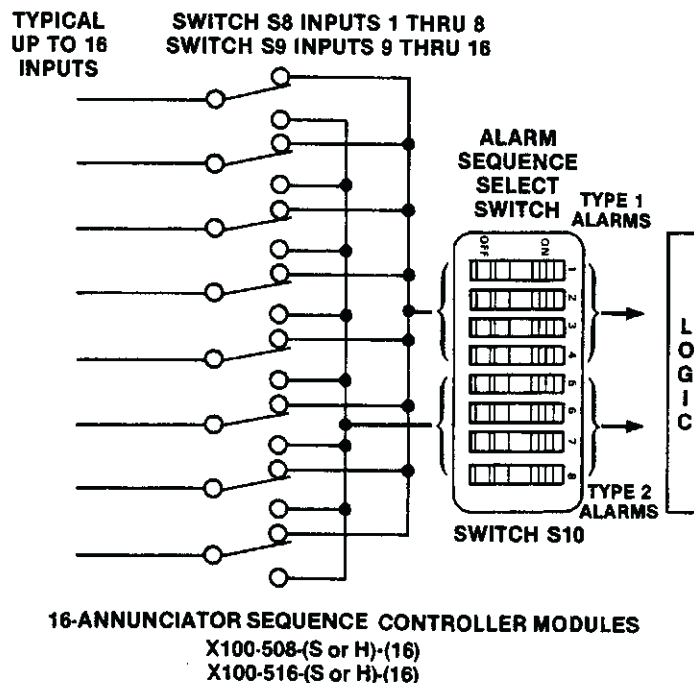

Figure 2-1. Input Grouping and Sequence Selection Switches, Simplified Diagram
Two annunciator sequences may be selected for simultaneous operation. One (1) eight-position DIP switch pack (S10) on the controller module, Figure 2-1, is used to select the desired sequence. Input grouping switches (S8 and S9) on the controller allow the user to assign the inputs to be monitored to the 8-position DIP switch. The position of the appropriate Sequence Selector Switch dictates which of the sixteen available sequences the X100 will execute. Detailed switch setting procedures are provided in Section 5.